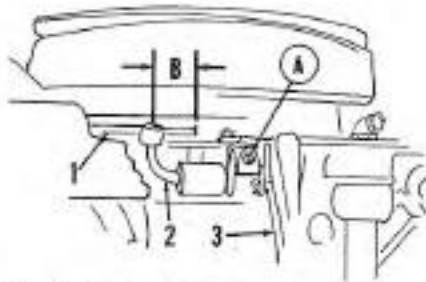

Fig. Mc105 — Schematic view of speed control mechanism used on early models with single carburetor. Refer to text.
40 HP and Royal Scott Motors With Single Carburetor: Refer to Fig. Mc105. With the motor not running, move the speed control grip until the center of the follower arm (2) is one inch from end of cam (1) as shown at (B). Turn the adjusting screw (A) until the cam follower just touches the cam and